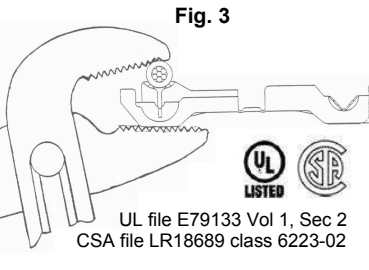

Fig. 3
2. Place the correct size wire into the nest of the metal and gently squeeze the wire into position with tongue-and-groove pliers without distorting (flattening) the wire insulation (Fig.3).